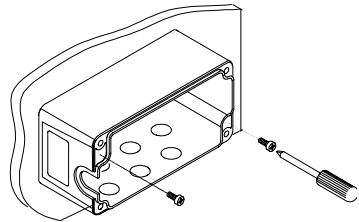

Figure 2.8 - Junction box mounting
- 2) Align the junction box and insert the two self-threading screws with their washers and screw them into the panel until tight (see Figure 2.8).